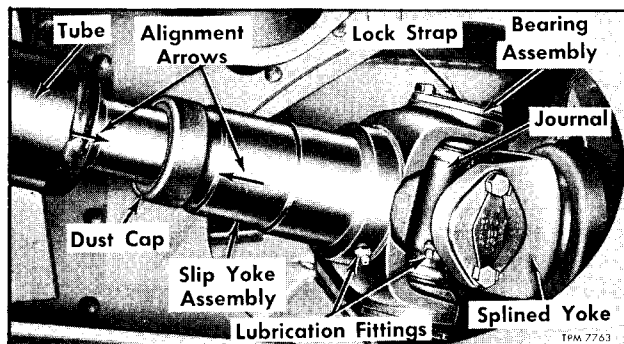

Figure 3—Propeller Shaft Installation at Transmission
2. Disconnect slip yoke from transmission splined yoke (fig. 3) by removing two bearings from splined yoke as directed in steps 1 through 3 under "Universal Joint Disassembly."